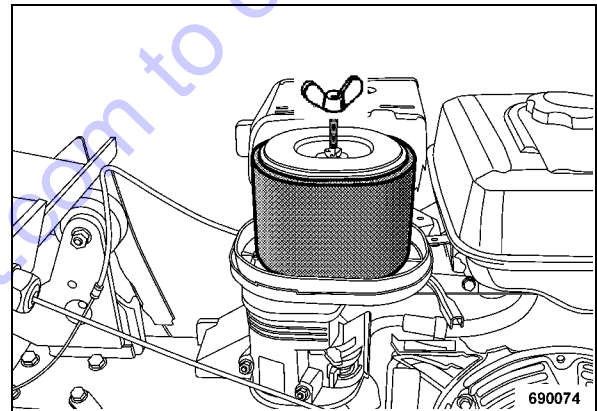

Fig. 72
- Unscrew the wing nut and pull the air filter cartridge out (Fig. 72).